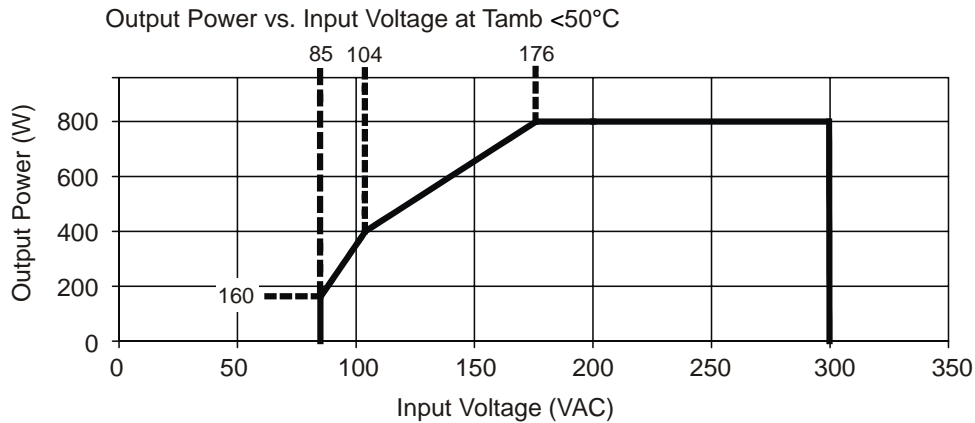

Figure 6
3.1.5 Power Derating Based on Voltage: The Rectifier Module power varies with changes in input voltage and output voltage. It uses an advanced power limitation method. The lower input threshold is 176 VAC. The Rectifier Module can provide its maximum rated power (800W) as long as the input voltage is within the range of 176 to 300 VAC. Below 176 VAC, and down to 85 VAC, the Rectifier Module will continue to operate normally but will be in a power derating mode. When operating at 85 VAC, the Rectifier Module can deliver 20% or more of its rated output power. The relationship between the output power and input voltage is illustrated in Figure 6.
Note: As depicted in Figure 6, the output power will derate from 100% (800W) of the rated capacity as the input voltage drops below 176 VAC, down to 50% (400W) of the rated capacity as the input voltage falls to 104 VAC, and to 20% (160W) of the rated capacity as the input voltage falls to 85 VAC.